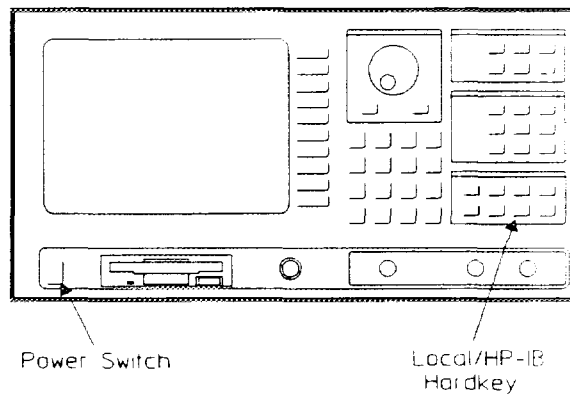

Figure 1-3. HP 35665A Front Panel
3. Turn on the HP 35665A. When the softkey labels appear, press the [Local/HP-IB] hardkey. See figure 1-3.